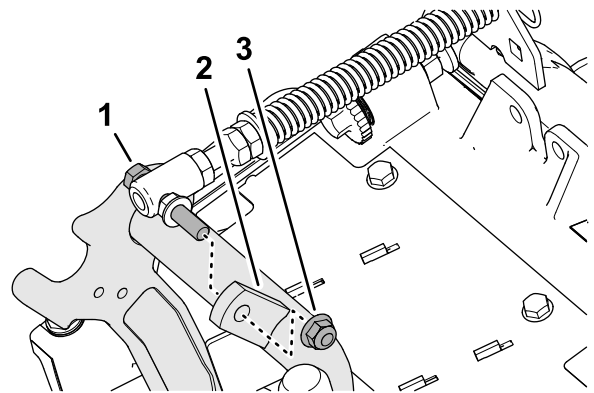

Figure 12
3. Remove the flange locknut (3/8 inch) that secures the capscrew of the turf compensation spring to the right tab of the carrier frame, and remove the compensation spring from the cutting unit (Figure 12).